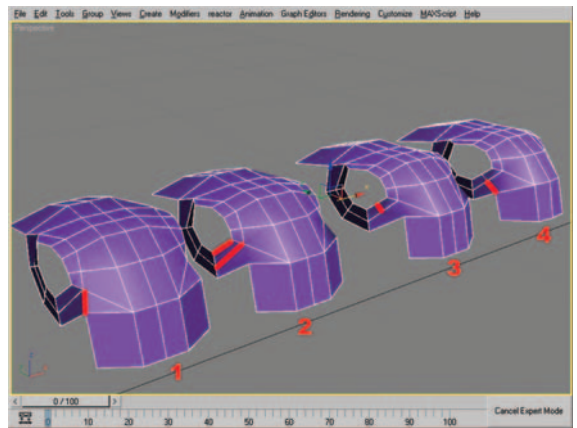

Figure 9.15 Step-by-step breakdown of step 15. Mesh progresses from left to right.
Step 14 restored some of the Quad polygons in the area, while creating a change in direction of the polygonal flow in the mesh. Step 15 will echo the process on the lower portion of the eye border. The next steps are all shown in Figure 9.15.
15. First select the edge shown in Figure 9.15 (mesh 1). Use the Backspace key to remove the edge. Select the edges shown in mesh 2. Use Connect to create a new edge along the eye border (mesh 3). Use Connect to create the new edge seen in mesh 4 to complete the process.
You can see in Figure 9.15, mesh 4, that what you are left with is a Quad-based mesh, with an angle defining a change of direction in the row of polygons we began with. Steps 14 and 15 show that you are never locked into what you start with. As you get more comfortable with the Poly-Modeling process, you will be able to model without fear; that is when great things will happen.